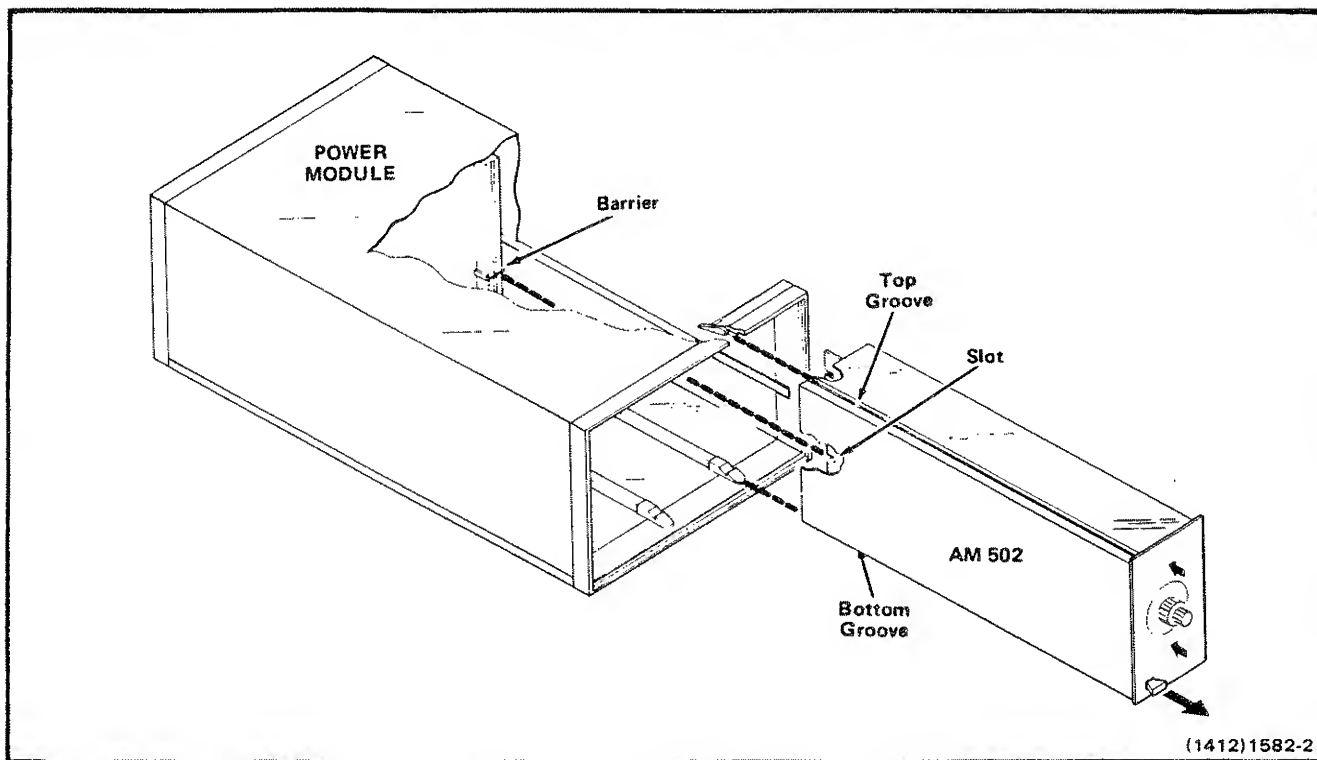

Fig. 1-1. Plug-in installation and removal.
*Turn the power module off before inserting the plug-in; otherwise, damage may occur to the plug-in circuitry. Because of the high current drawn by the AM 502, it is also recommended that the power module be turned off before removing the AM 502. Refer to Fig. 1-1. Check to see that the plastic barriers on the interconnecting jack of the selected power module compartment match the cut-outs in the AM 502 circuit board edge connector.*